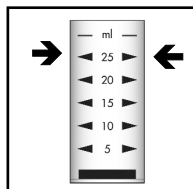

Figure 1
1. Fill the sample cup to the 25 mL mark with the sample (fig 1).